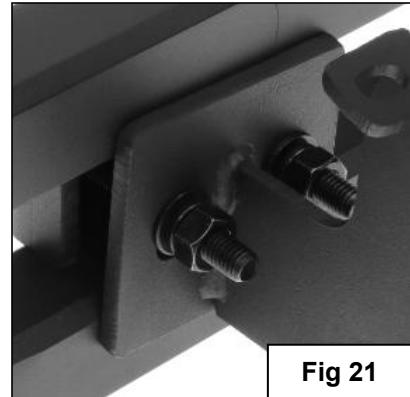

Fig 21
Brackets with (2) M10 Hex Nuts,(2)10mm lock washers and (2)10mm flat washers, (**Fig 21**).